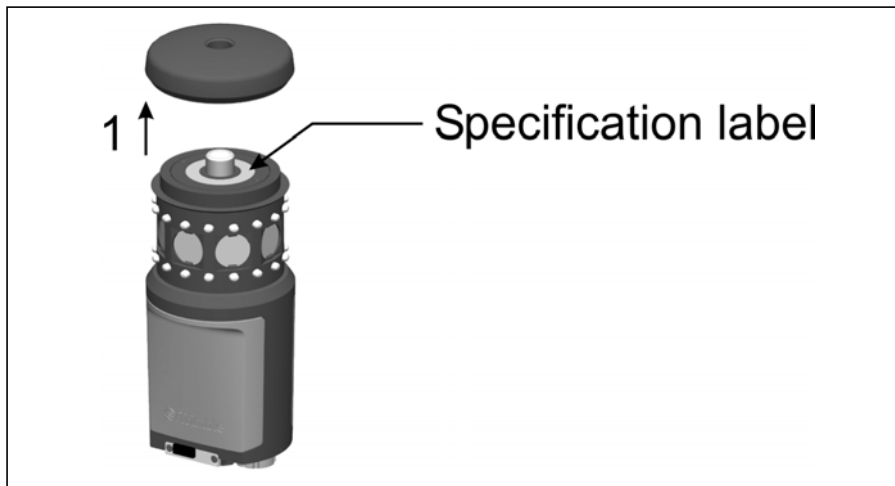

Figure 7.67 Specification label
To read the specification label unscrew the top cap of the target (1) as shown in figure 7.67.